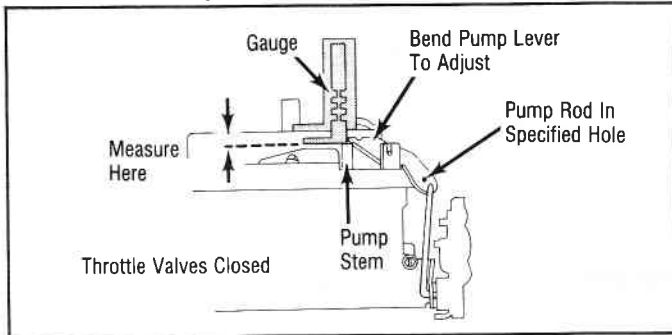

Fig. 4 Accelerator Pump Adjustment
- Place the pump rod in the specified hole in the pump lever. See Fig. 4.